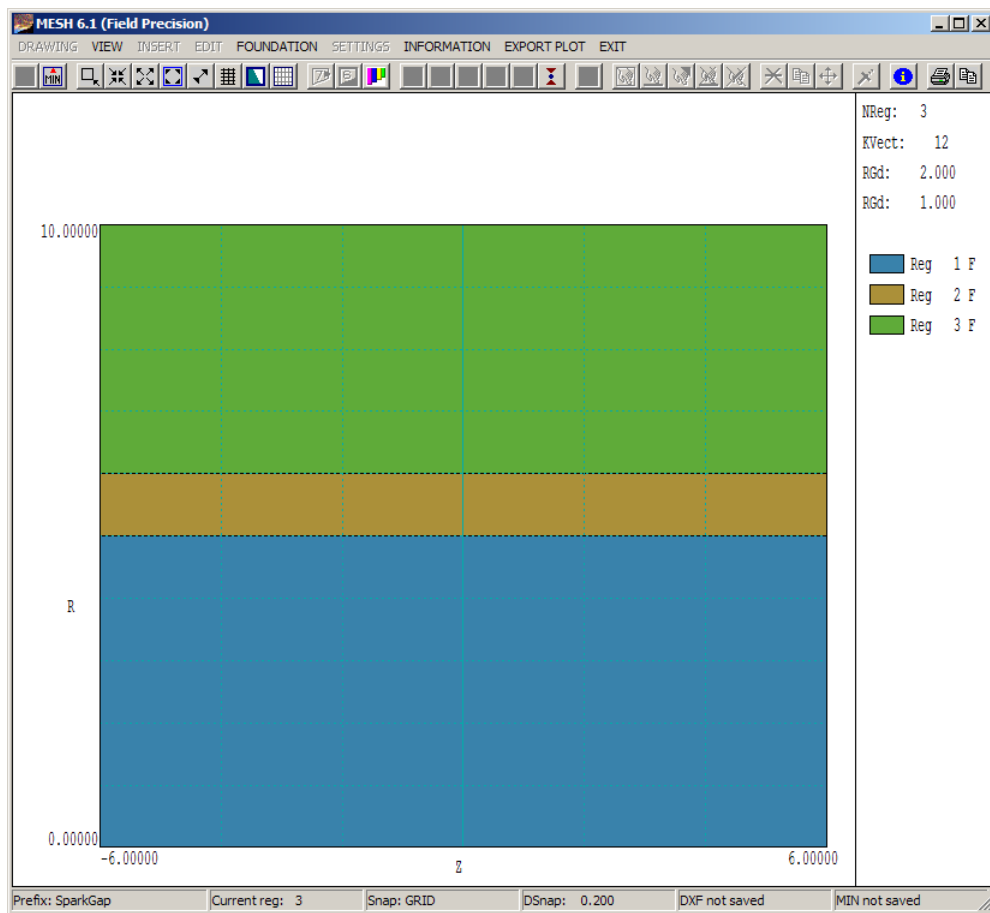

Figure 12: Appearance of Regions 1,2 and 3 in the fill display mode.
We can check that the *Filled* regions are correct (*i.e.*, the vectors are connected and outline closed areas). Click on the menu command *Information/Show fill status* or use the tool. The screen plot changes from a vector display to one that shows the areas occupied by filled regions (Fig. 12). Note that all menu commands for entering and editing vectors have been deactivated. The program must be in the vector-display mode to create new entities. Click on the command again to return to the vector mode. This is a good point to backup your work using the *Drawing/DXF/Export* command.
- Checking that the region order correctly implements overwriting. For example, in Fig. 12 note how the electrodes over-write the space shared with the gas, ceramic and oil regions.